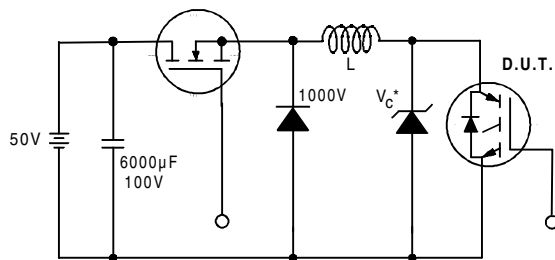

Figure 19. Clamped Inductive Load Test Circuit
- ② $V_{CC}=80\%(V_{CES})$, $V_{GE}=20V$, $L=10\mu H$, $R_G=23\Omega$ (figure 19)
- ③ Pulse width $\leq 80\mu s$; duty factor $\leq 0.1\%$.
- ④ Pulse width $5.0\mu s$, single shot.
- ⑤ $t = 60s$, $f = 60Hz$